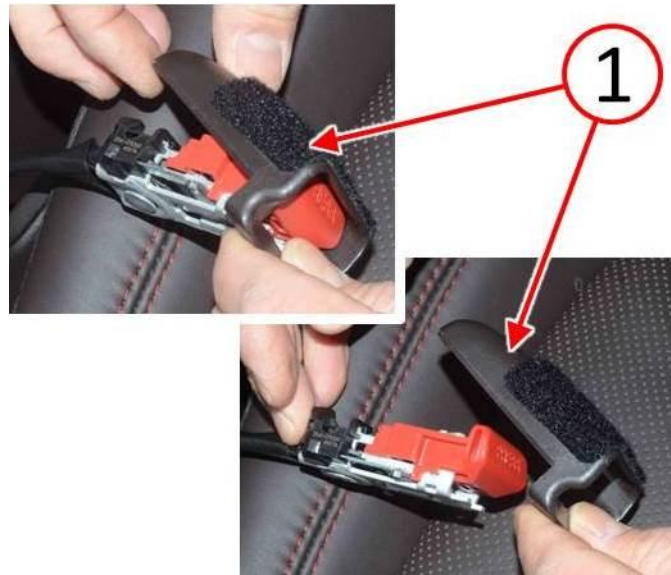

Fig. 4 Remove Seatbelt Buckle Upper Cover
- Lift the upper cover (1) up and away from the buckle (Fig. 4).